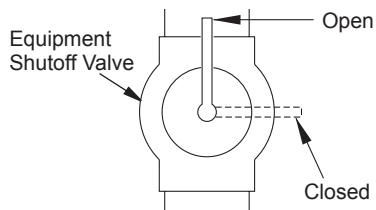

Figure 21 - Equipment Shutoff Valve
1. Close equipment shutoff valve (see Figure 21).
1. Open equipment shutoff valve (see Figure 21, page 15).